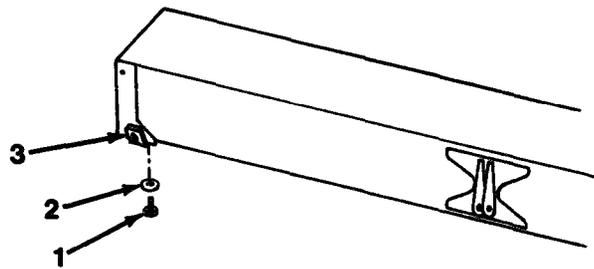

Figure 18-1
Type II Work Light Bracket Removal consists of removing a capscrew (1), lockwasher (2) and bracket (3, Figure 18-1). Installation is reverse of removal.